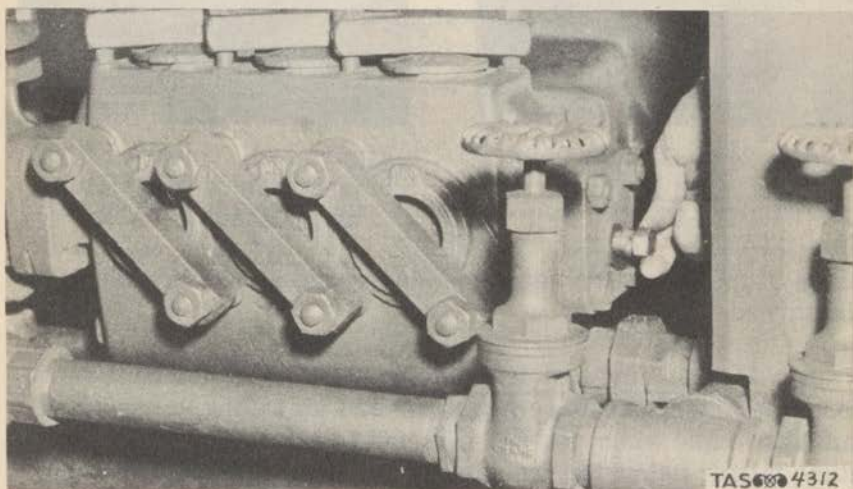

Figure 245. Removal of Drain Plug.
(5) Remove the drain plug near the corner of the right end of the pump, as seen from the valve side of the apparatus. (Fig. 245)